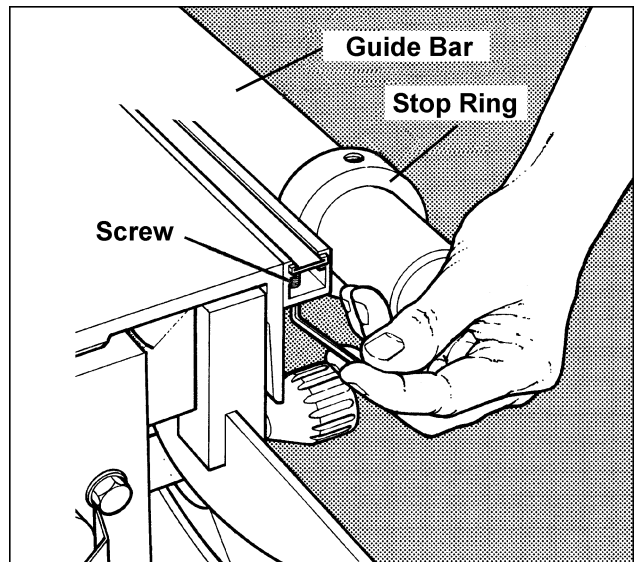

FIGURE 32
2. Loosen the screw on the scale, shown in Figure 32. To avoid the fence contacting the rotating saw blade, the stop ring has to be adjusted.